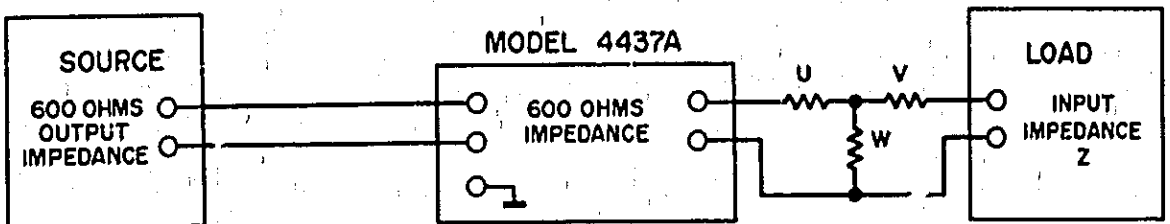
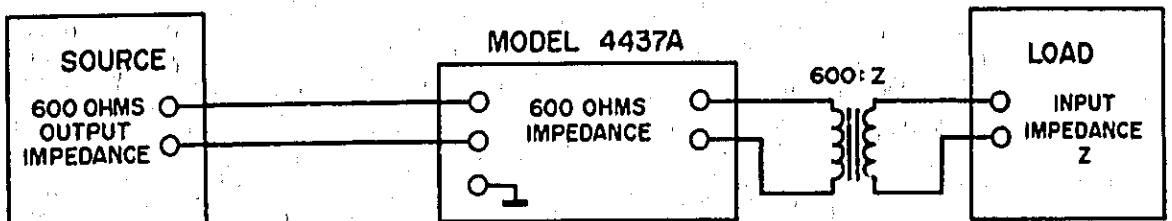

Figure 3-12. Output Matching with Resistive Network
Figure 3-13. Output Matching with Transformer
c. Resistive matching networks or matching transformers may be used to provide the Model 4437A and its load with an impedance match. Figure 3-12 shows impedance matching with matching network and Figure 3-13 shows impedance matching with transformer. Network data and connections are given in Figure 3-9 and Table 3-1. Similarly in matching at the INPUT, the insertion loss of the resistive network or the transformer should be taken into account.